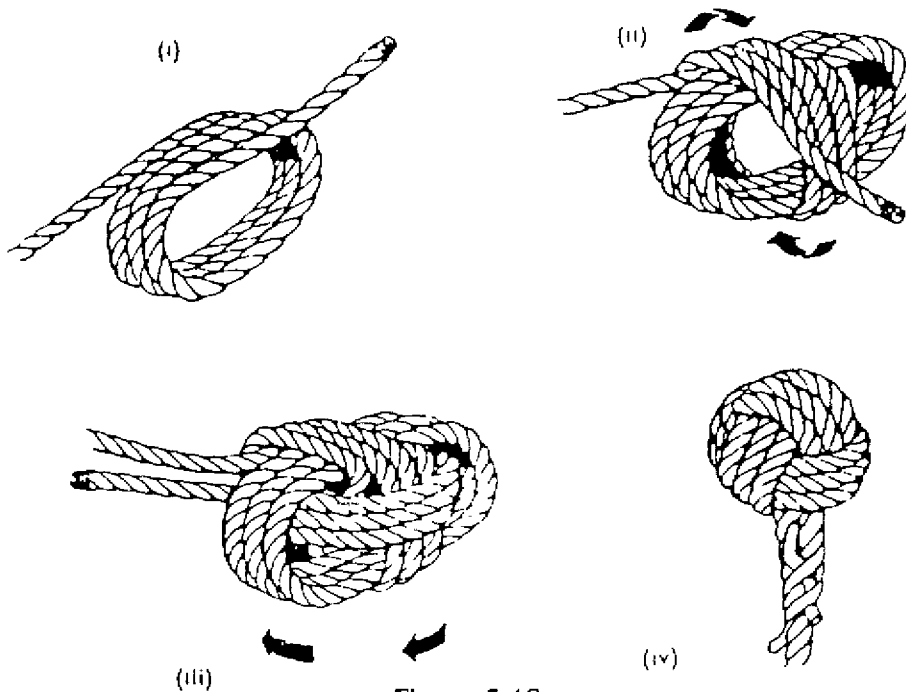

Figure 5:13
- d. to finish the knot, work all parts taut and splice the end into the standing part alternatively, tie an overhand knot in the end and complete it by tucking it inside the 'Monkey's Fist', then work all parts taut as before (see Figure 5:13).